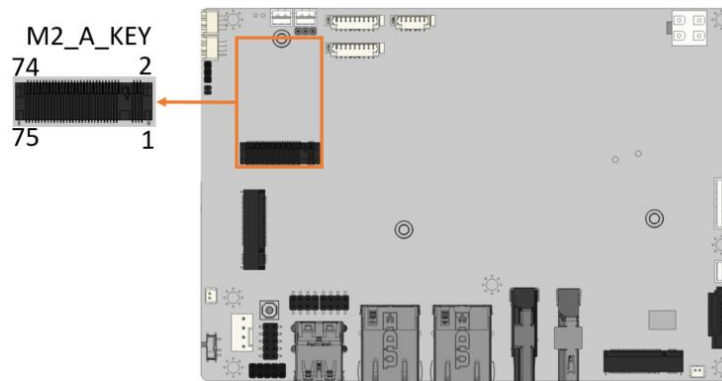

Figure 3-19: M.2 A-key Slot Location
- CN Location:** See **Figure 3-19**